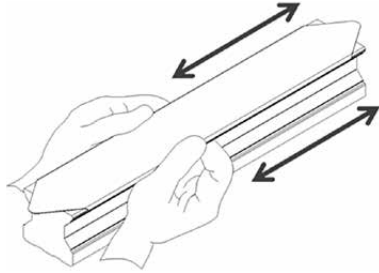

Fig. 5.19 Starting to mount the cover strip
- ▶ After centering, clip the cover strip onto the profile rail, starting from one side as shown in Fig. 5.19, over a length of approx. 15 cm.